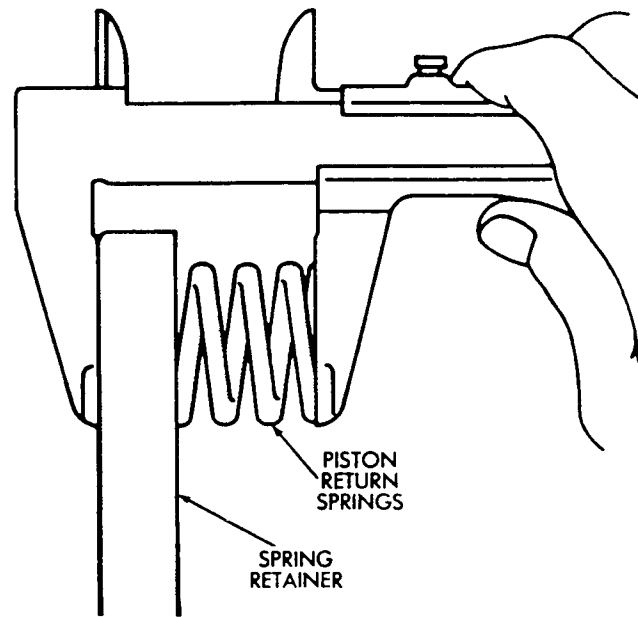

Fig. 16 Checking Piston Return Spring Length
(18) Measure free length of piston return springs with springs in retainer (Fig. 16). Length should be 16.8 mm (.661 in).